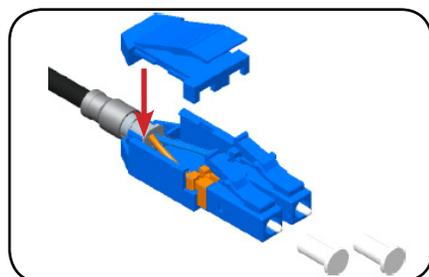
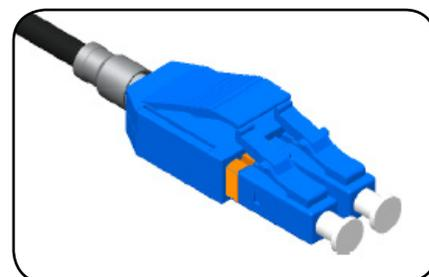

Figure 5
Figure 6
**Step 4:** Snap body cover onto lower half (**Figure 5**). Install the protective dust cap (**Figure 6**).